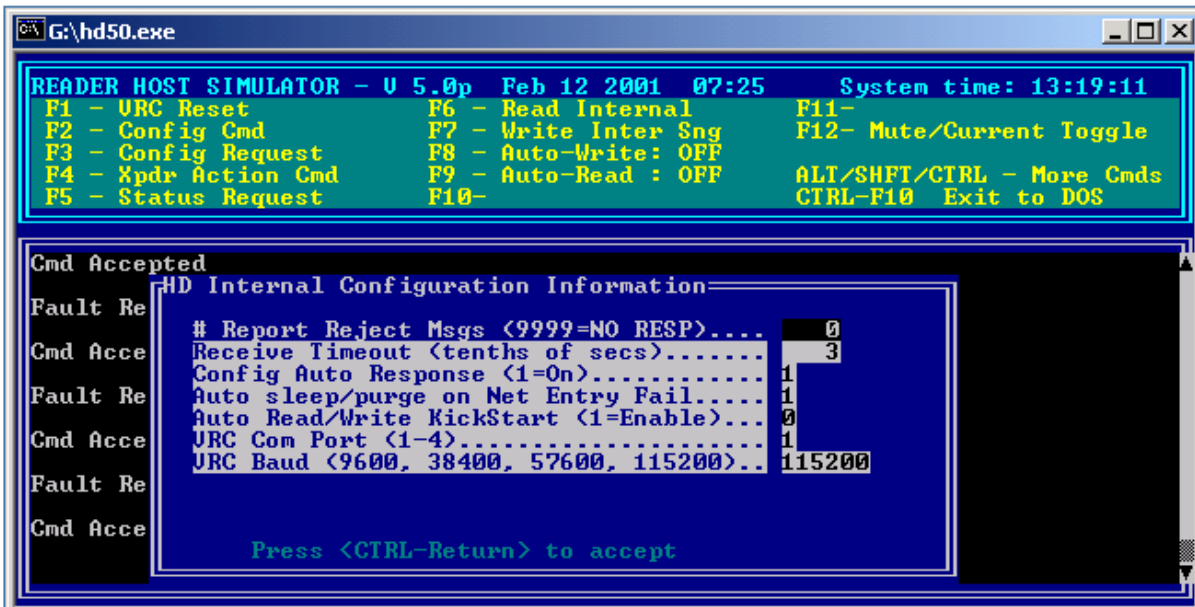

Figure 4-HD 5.0: Internal Configuration Menu
- Within HD 5.0, hold down <Shift>, and press <F3>. This will bring up HD's Internal Configuration menu shown in Figure 4.